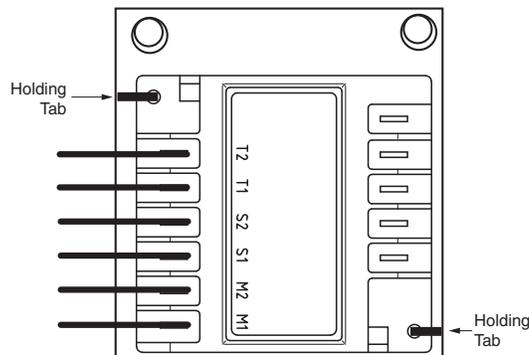

Fig. 64 — Kriwan Motor Protection Module Removal
4. Gently bend the holding tabs holding the Kriwan module in the terminal box and remove the Kriwan module from the terminal box. See Fig. 64.